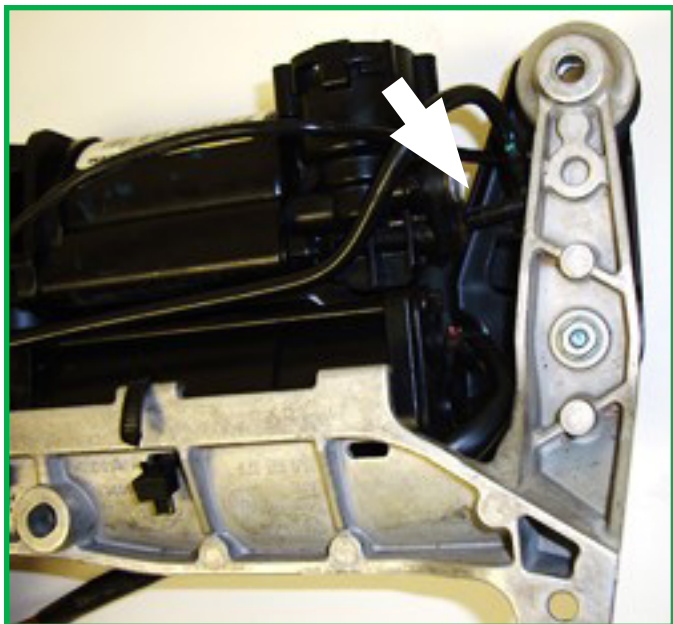

FIGURE 8
9. Disconnect the line from the compressor dryer by depressing the collar while pulling on the hose. (Identified as “P” on the air valve block) (Does not need to be disconnected at air valve block). (Figures 8, 9)